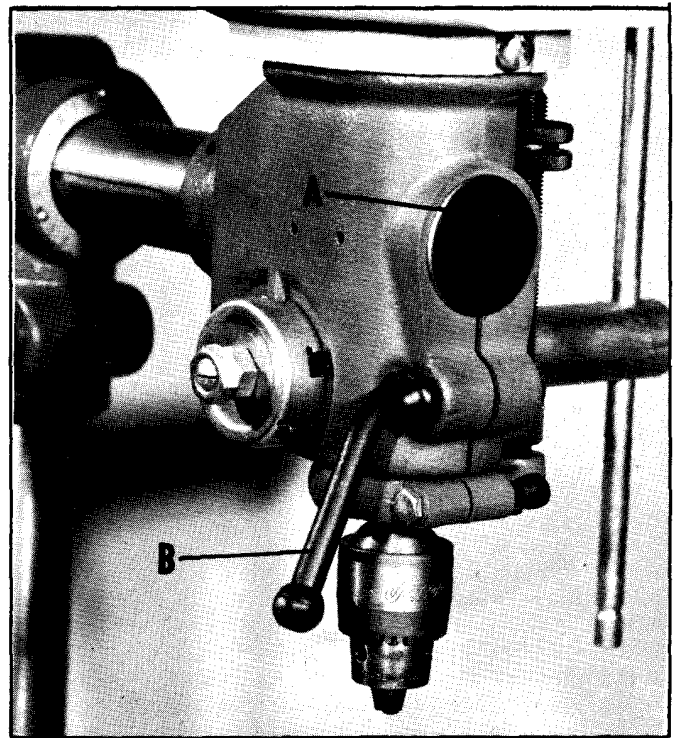

Fig. 22
1. Remove hole cover plate (A) Fig. 22.
2. Run the quill down until the set collar above the quill is accessible through the opening in the head where the hole cover plate (A) was removed.
To eliminate all end play in the spindle, clamp the table at a suitable height and lower the spindle against it with moderate pressure while, at the same time, clamping the quill with the quill locking lever (B) Fig. 22. Remove cover plate (A) and move the set collar down against the top of the quill, and tighten the set screw used to secure the collar in position. This method will remove slack between the thrust collar, thrust bearing and quill.